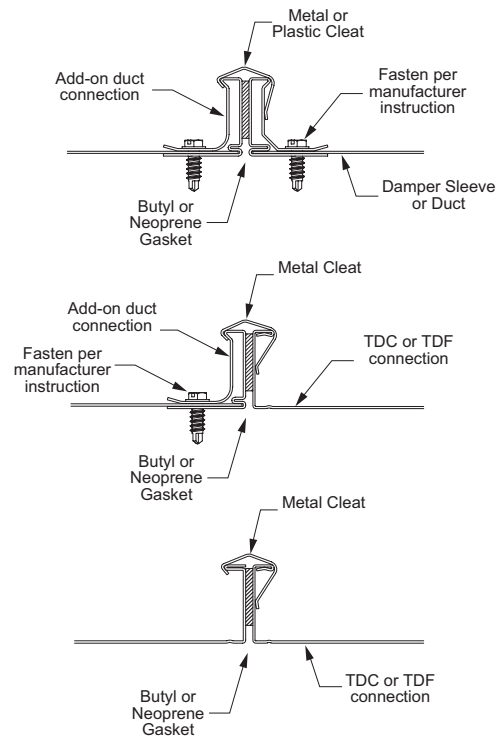
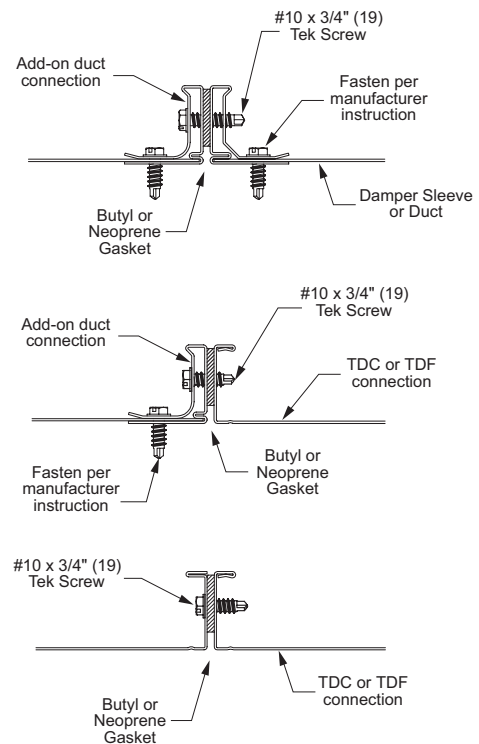

Figure 1 - Installation with Cleats
Figure 2 - Installation with #10 Tek Screws
3. Align the two flange systems together. A 3/8" (9) bolt may be used in the corners to help with alignment and attachment. These bolts do not have to be removed.
4. Install the plastic or metal cleat (Figure 1) or #10 tek screw (Figure 2), approximately equally spaced, per the following schedule.